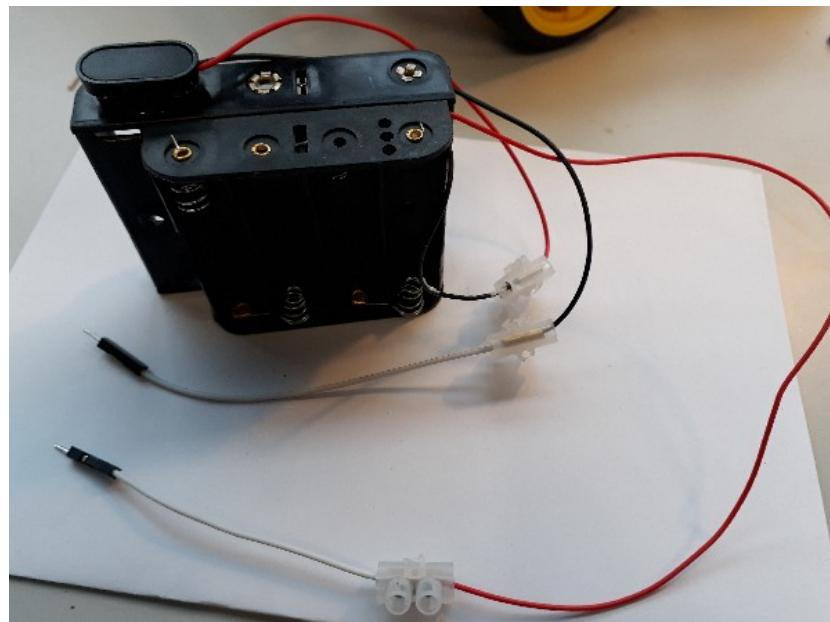

Figure 10: Final battery pack assembly.
Step 10: The battery pack should, now have two wires coming out of it, a black one with a junction box on it and a red one with no junction box on it. Find another single junction box and attach it to the battery pack, so both wires coming out for the battery pack have junction boxes on them. Then get a single jumper lead, with two male ends on it. Cut it in half, strip the ends and screw them into the junction boxes attached to the battery pack. The final battery pack, assembly should look as shown in figure 10.